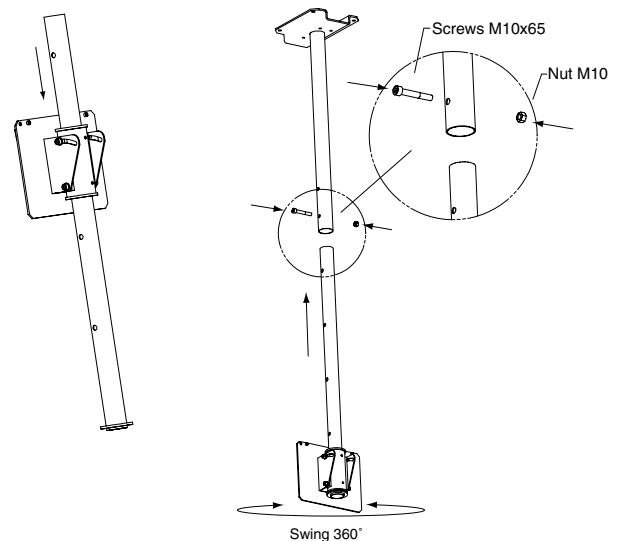
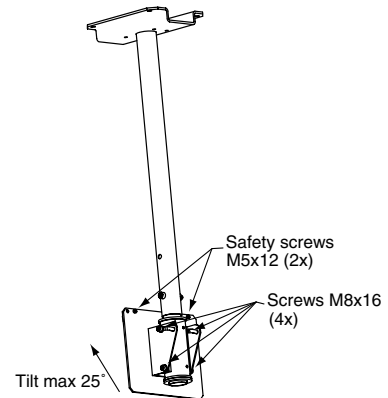

Figure 2
Figure 3
- ② Slide plasma mounting plate down onto lower column. Allow mounting plate to rest on the lip at the bottom of the column (see Fig. 2).
- ③ Slide lower column into upper column and attach using M10 x 65 screw and M10 nut (see Fig. 2).
- ④ Attach universal plasma bracket or plasma specific bracket to monitor using enclosed screws and washers (see separate instruction sheet).
- ⑤ Use the ceiling mounting plate to mark out holes for the ceiling. Check alignment with level then drill $\frac{3}{8}$ " holes and attach mount to ceiling structured ceiling.
- ⑥ Once mount is attached to ceiling, lock plasma mounting plate into position using M8 x 16 screws (see Fig. 3).